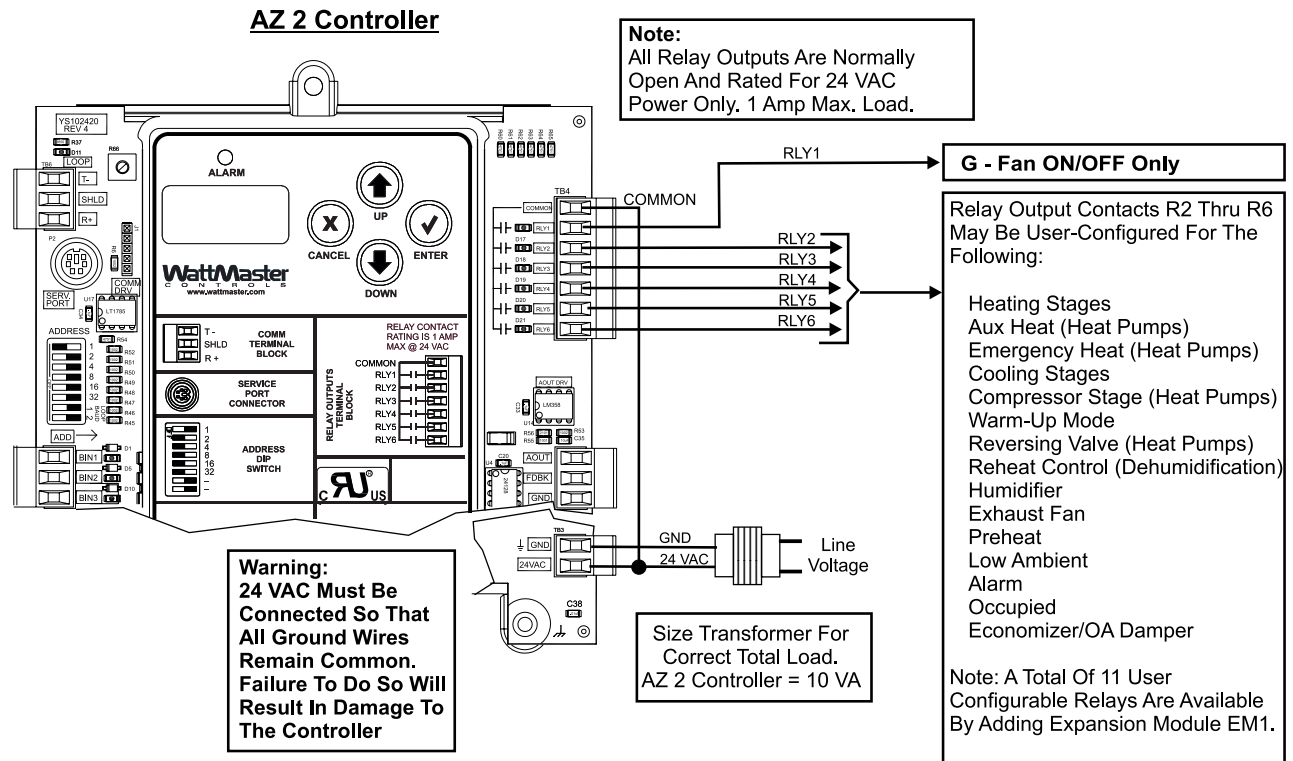

Figure 14: – Relay Output Wiring
By using all (5) of the available relay outputs on the AZ 2 Controller and the (6) relay outputs on the AZ 2 Expansion Module 1, you have the ability to configure up to a combined total of (11) relay outputs for Heating Stages, Cooling Stages, and options listed in **Figure 7** and **Figure 14**.